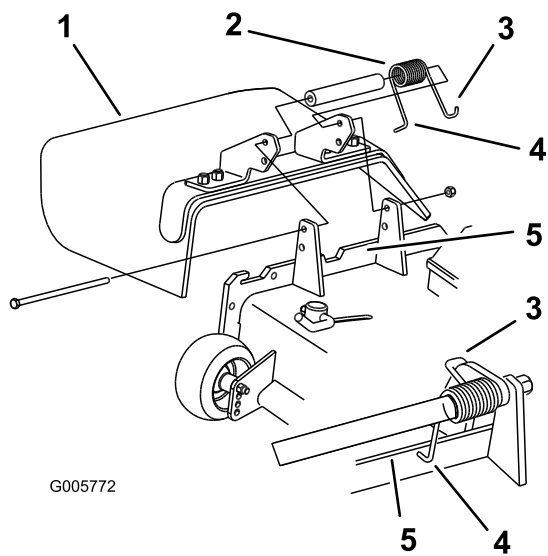

Figure 15
1. Make sure the **L** end of spring is installed behind the deck edge before installing the bolt as shown in Figure 15.
2. Place the **J** hook end of spring around grass deflector (Figure 15).